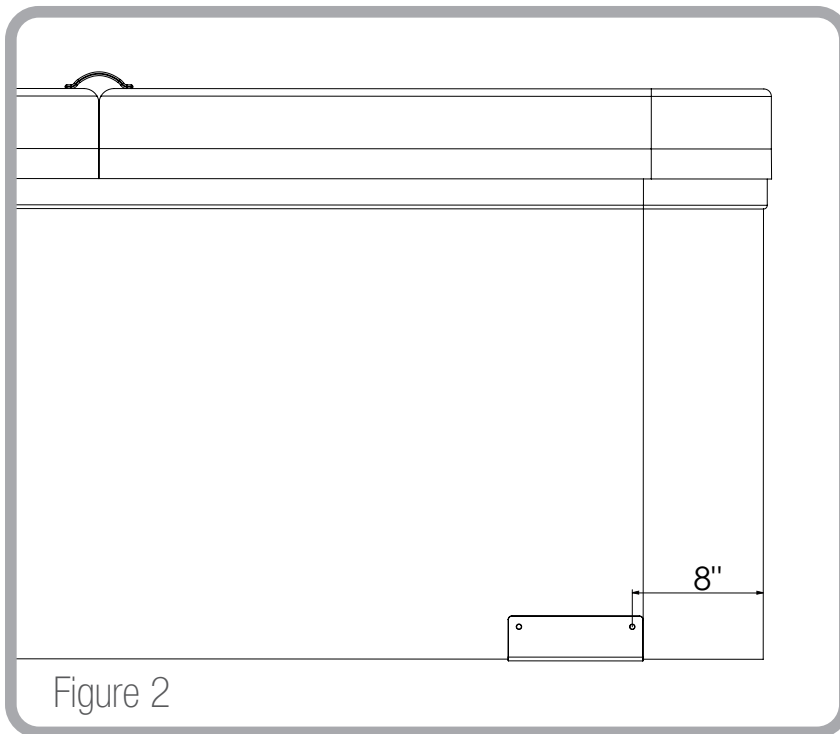

Figure 2
- Slide the Base Bracket under the spa 8" from the back edge. See Figure 2